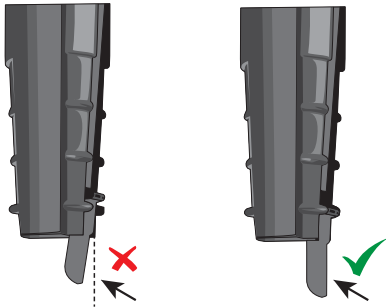

Figure 15
d. Always verify that the locking tab on the closure is fully engaged, otherwise a proper seal cannot be ensured. See Figure 15.